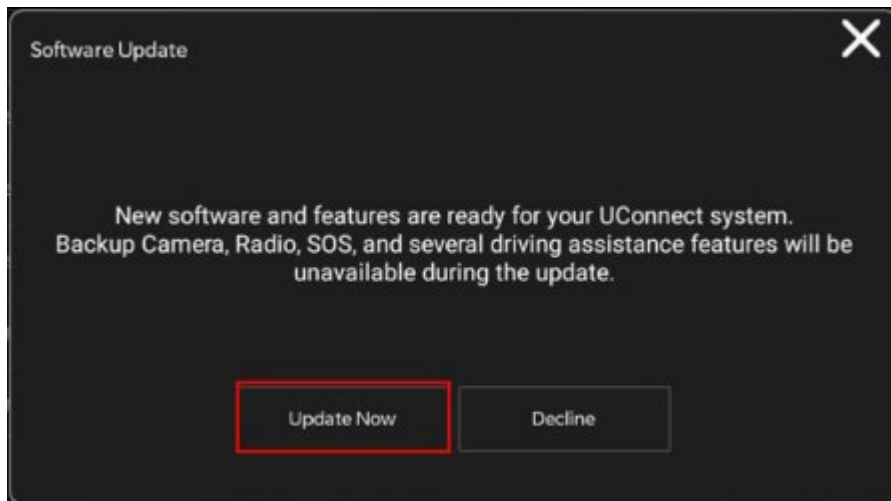

Fig. 2
12. Once the system has verified there is an available update, press the “Update Now” button. Make sure the vehicle is in park. **Do NOT turn the ignition off until the two minute timer has expired. The ignition doesn’t have to be turned off to update the radio’s software (Fig. 2) .**